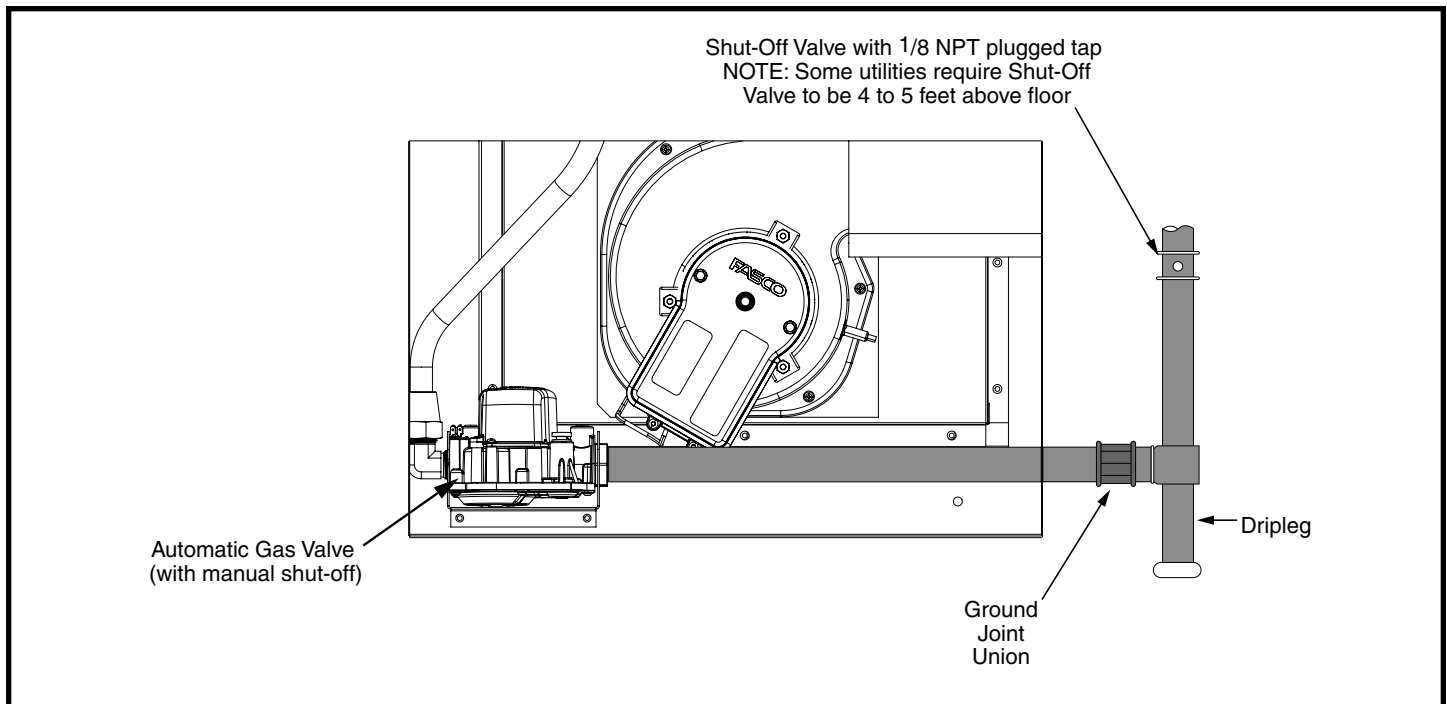

Figure 7. Typical Gas Hookup - Right Side Entry
- Some local codes require the installation of a manual main shut-off valve and ground joint union external to the unit. The shut-off valve should be readily accessible for service and/or emergency use. Consult the local utility or gas supplier for additional requirements regarding placement of the manual main gas shut-off. See Figure 7 \(page 13\).
- A drip leg should be installed in the vertical pipe run to the unit. See Figure 7.
This unit only has right side gas entry. When connecting the gas, provide clearance between the gas supply line and the entry hole in the unit's casing to avoid unwanted noise and/or damage to the unit. A typical gas service hookup is shown in Figure 7.